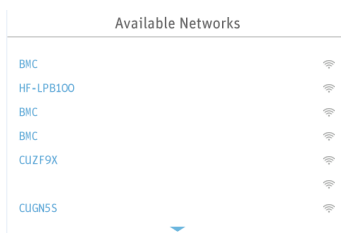
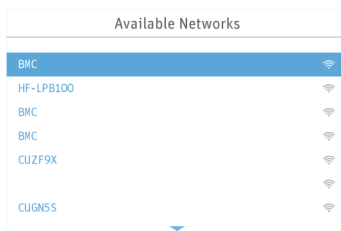

Fig. 15-7
Fig. 15-8
(3) The “WiFi” setup interface displays a certain number of available WiFi networks in a random order, as shown in Fig. 15-7. If a page turning symbol  appears below the WiFi network list, it indicates that when the cursor is on the last WiFi network on that page, the user can turn **the Knob**  to the right to see the remaining WiFi networks, as shown in figures 15-8. If the desired WiFi network is not listed, disconnect the device from the power supply, connect it to the power supply again, and then repeat steps (1) (2) to search for WiFi networks. Keep searching until the desired WiFi network is found.